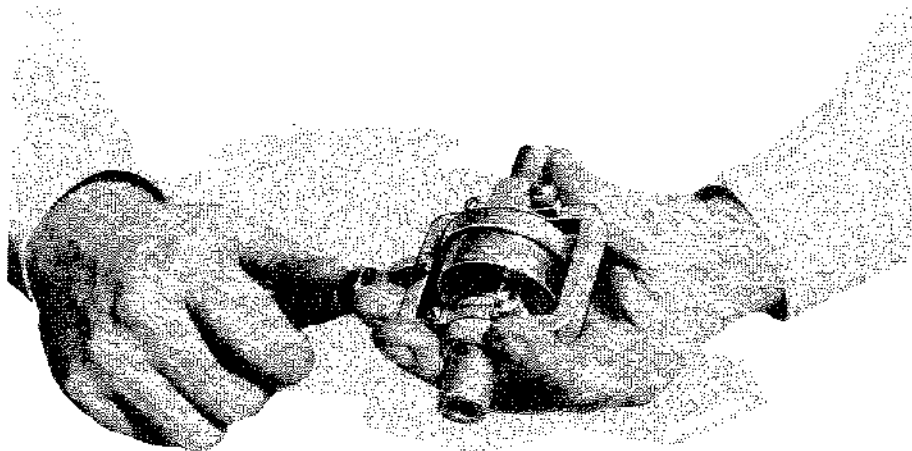

FIGURE 32 SPINNING THE ROTOR FOR THE DYNAMIC BALANCE
4. Holding the fixture firmly in the left hand, as shown in Fig. 32, apply a jet of